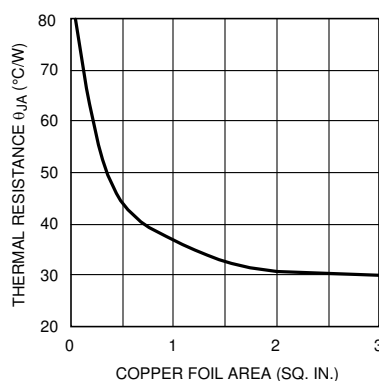

Figure 6-4. Thermal Resistance (Typical) for 7-L DPAK Package Mounted on 1 oz. (0.036 mm) PC Board Foil
5. Choose a copper area that will ensure the specified $T_{J(MAX)}$ for the calculated θ_{JA} . θ_{JA} as a function of copper area in square inches is shown in Figure 6-4.
4. Finally, using this value for θ_{JA} choose the minimum value of copper area from Figure 6-4.
Examining Figure 6-4, we see that we cannot attain this low of a thermal resistance for one layer of 1 oz copper. It will be necessary to derate the part by decreasing either the ambient temperature or the power dissipation. Other solutions are to use two layers of 1 oz foil, or use 2 oz copper (see Table 6-1), or to provide forced air flow. One should allow about an extra 15% heat sinking capability for safety margin.